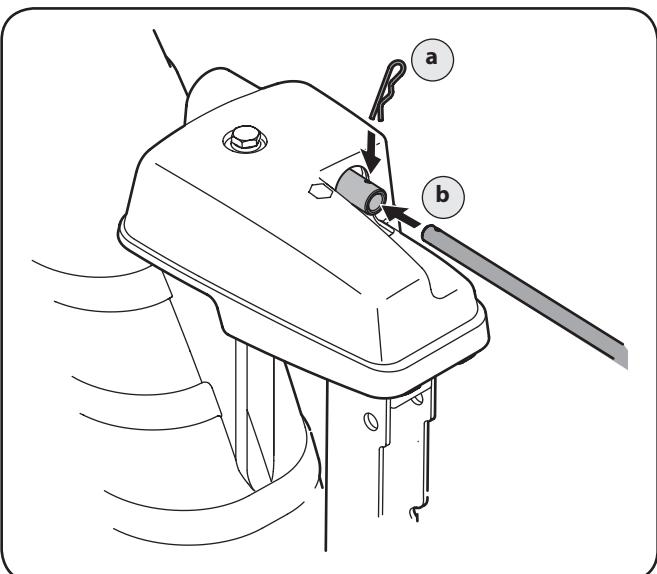

Fig. 3-7
- Remove the cotter pin and insert the chute crank rod into the connector on the chute control assembly. See Fig. 3-7.